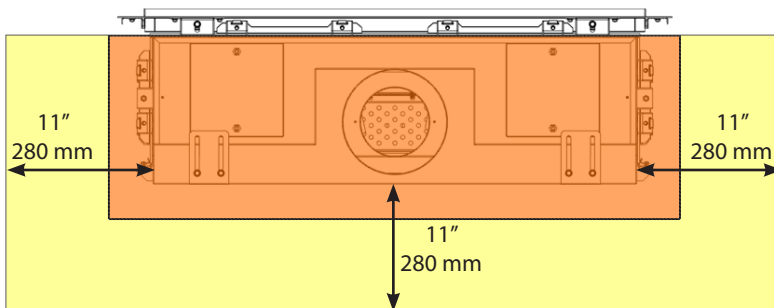

Figure 7 Plan View - Modore 140
- The minimum clearance to non-combustible material is 2"/50 mm. (See Figures 7 - 15, clearance shown in red)
Figures 7* through 9* show (in yellow) the clearances to combustible material which *must* be maintained.